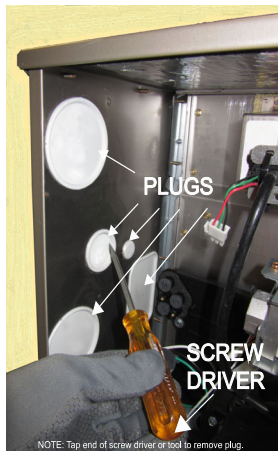

Fig. 16 – Plug Removal
1. Remove the 7/8-in. knockout or plug from the right side of the casing. See Fig. 16 for suggested knockout or plug removal technique.
- Remove the inducer housing screws, disconnect harnesses, and set inducer housing aside. See Fig. 16 for suggested knockout or plug removal technique.
- Remove 7/8-in. knockout or plug from the left side of the casing. See Fig. 16 for suggested knockout or plug removal technique.